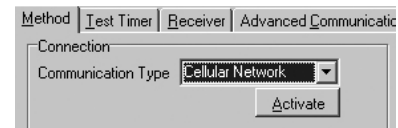

Figure 4: Remote Link Activation
1. In Remote Link panel communication programming, select Cellular Network as the Communication Type and select the Activate button. See Figure 4.